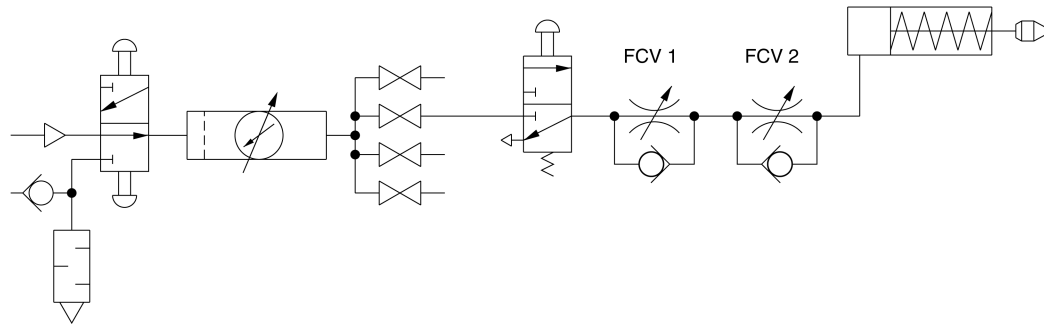

Figure 3-14. Schematic Diagram of a Circuit Using Speed Control Both Directions
- ☐ 17. Modify your circuit as shown in Figure 3-14. Be careful to connect the Flow Control Valves in the correct direction.
- ☐ 18. Referring to the schematic diagram shown in Figure 3-14, which valve controls the extension speed of the cylinder?
- ☐ 19. Referring to the schematic diagram shown in Figure 3-14, indicate in Table 3-3 how the operation of the cylinder will be affected by the setting combinations of Flow Control Valves FCV1 and FCV2.